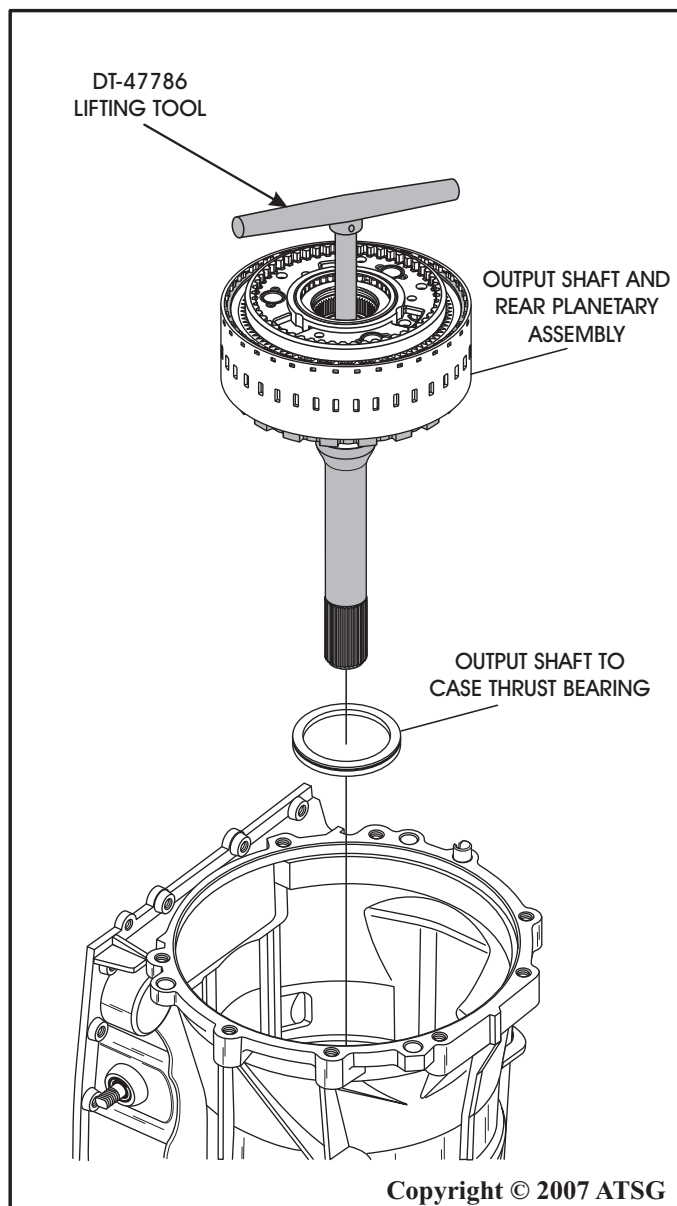

Figure 51
14. Remove the output carrier and output shaft assembly using the DT-47786 lifting tool, as shown in Figure 51.